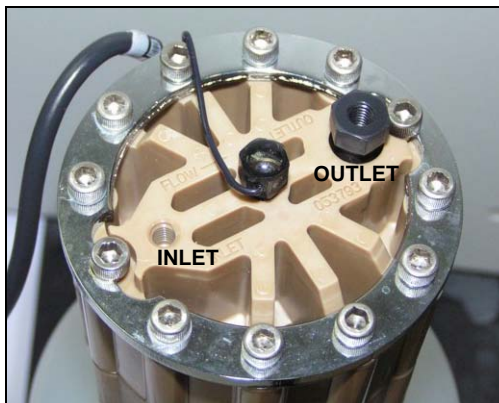

Figure 5-50. Dionex EluGen Cartridge Inlet and Outlet Ports
11. Orient the Dionex EluGen cartridge with the fittings facing up and remove the plugs from the Dionex EluGen cartridge **INLET** and **OUTLET** ports (see Figure 5-50).